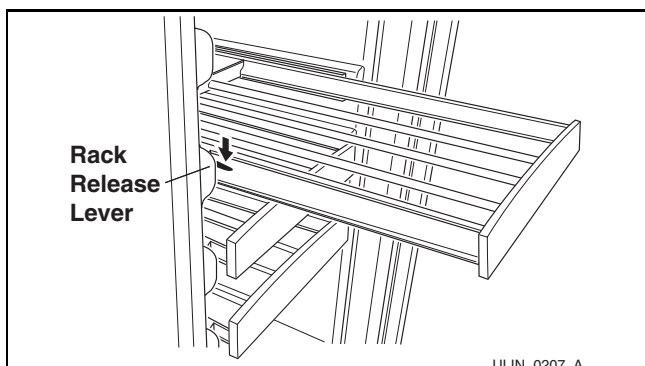

Figure 19. Rack Removal/Installation
3. Press the left rack release lever (**Figure 19**) down, and at the same time, lift the corresponding right rack release lever up, and pull the rack out until it is free of the tracks and the cabinet.